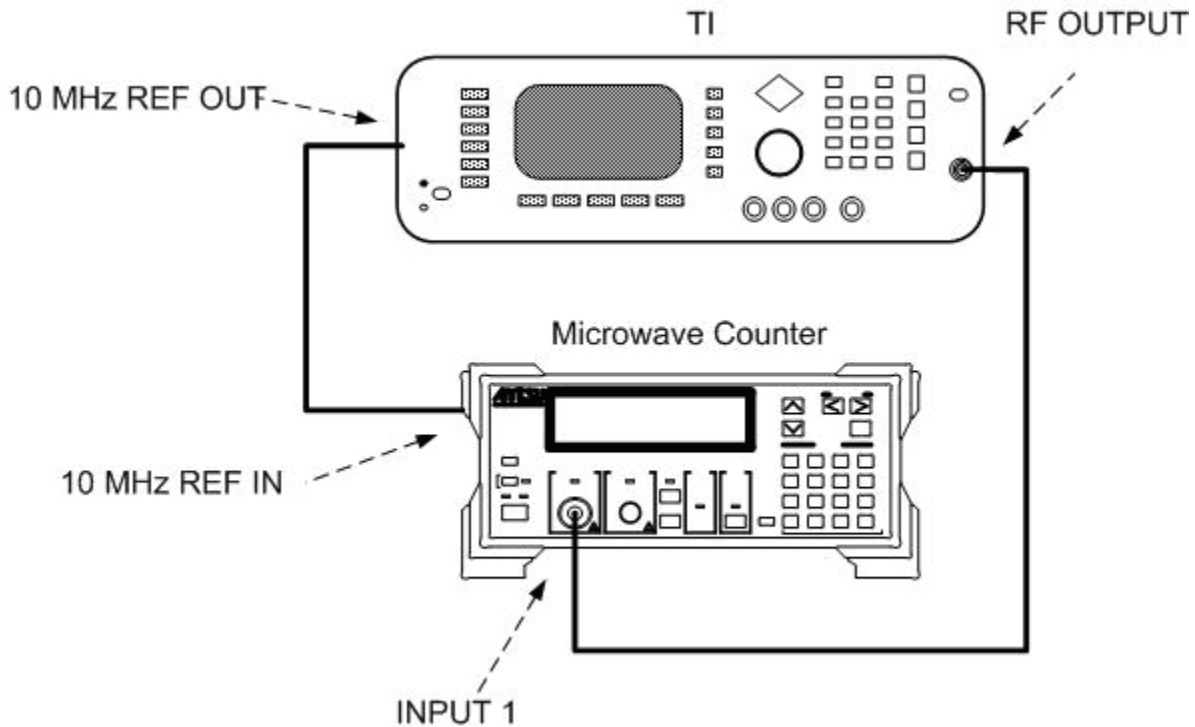

Figure 3. Frequency resolution accuracy hook-up.
- (1) Connect equipment as indicated in figure 3.